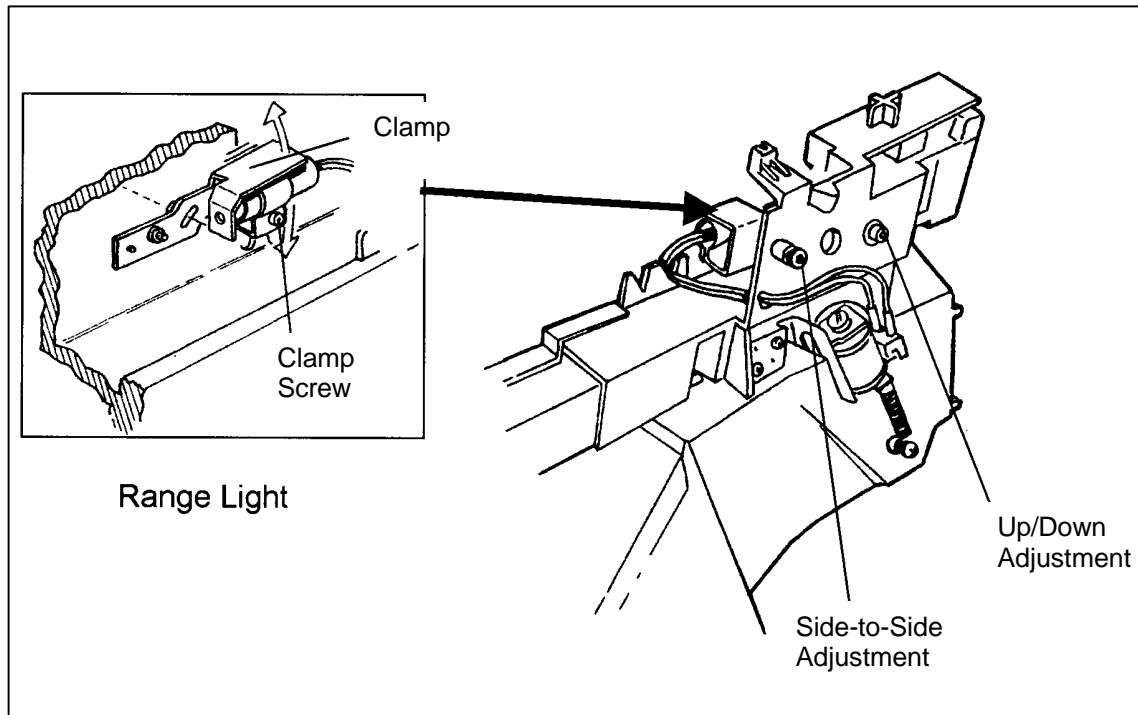

Figure 3-3 Range Light Adjustments
- Loosen the applicable adjustment screw (Figure 3-3) and then manually adjust the range light until it merges with the other range light.